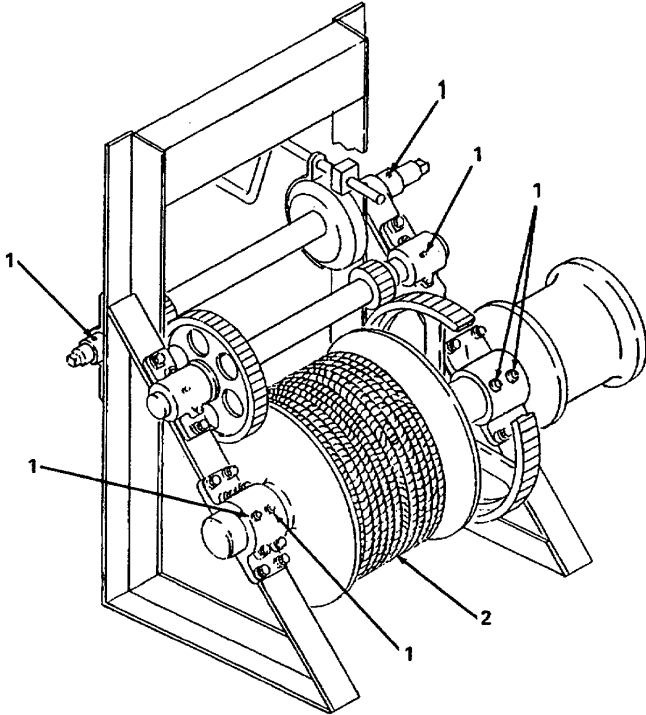

Figure 3-1. Windlass Lubrication
- a. Windlass (figure 3-1). Apply 2 or 3 shots of GAA grease through each lubrication fitting (1). Apply cable grease to wire rope (2) on windlass drum.